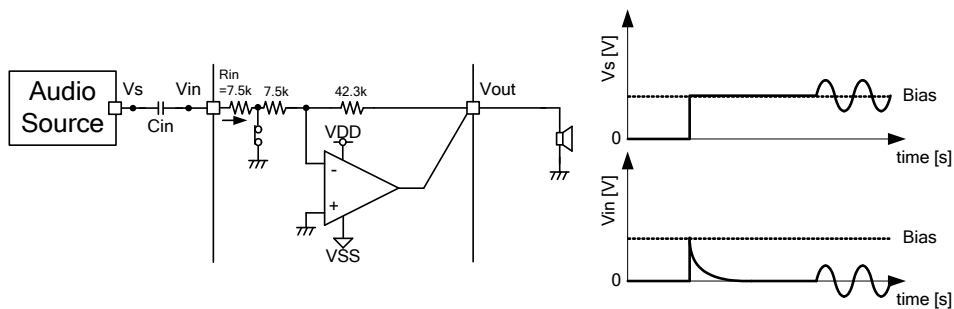

Figure 31. Fluctuation of input terminal voltage when charging input coupling capacitor
① The term from "PVDD, SVDD : ON" to "shutdown ON->OFF"
When power supply (PVDD, SVDD) is applied, it is started that charging input coupling capacitors. Therefore, the input terminal voltage "Vin" is changed as following Figure 31. Time constant "τ" of charging input coupling capacitor is decided by input coupling capacitor Cin and Internal input impedance Rin (See formula (1)). Internal impedance Rin in term of shutdown is 7.5kΩ(typ) for making time constant τ shorten. If "SDB" is changed "L" to "H" (shutdown ON -> OFF) during input DC voltage (Vin) is changing, pop noise may occur. It is recommended that shutdown ON -> OFF ("SDB" : L -> H) after 5τ ~ 6τ.